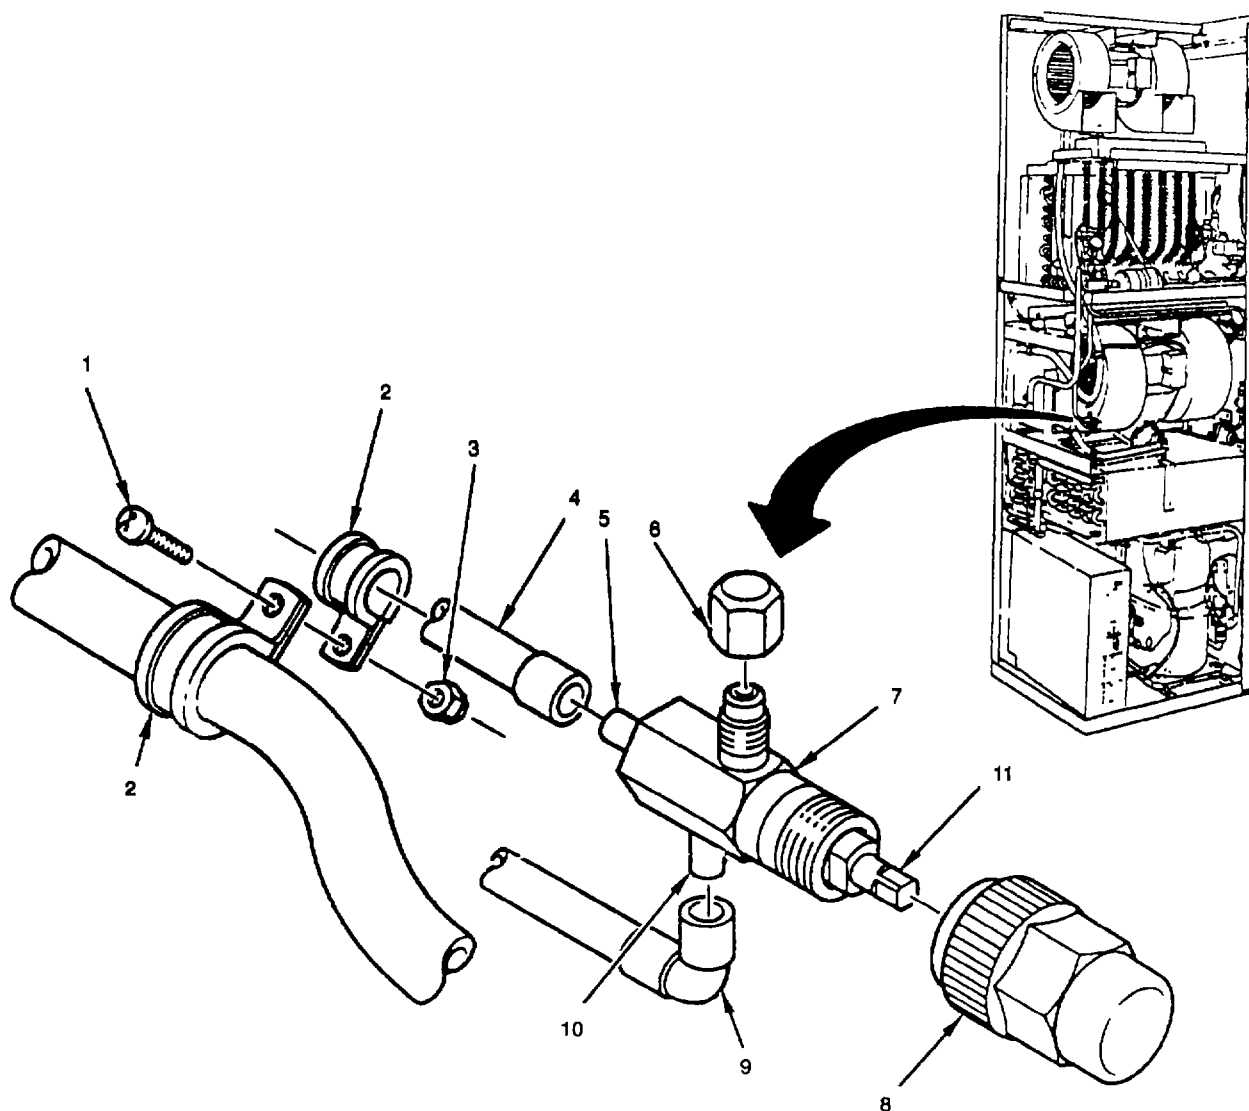

Figure 5-17. Liquid Quench Service Valve (V3)
- (1) Disconnect air conditioner input power at source; and
- (2) Remove condenser fan section panel (paragraph 4.23).
- a. Check for evidence of leaks or damaged lines, and loose or missing mounting hardware (see fig. 5-17).
- b. Remove screw (1) and locknut (3), slid clamps (2).
- c. Debraze tubing (4) and (9) at joints (5) and (10) (paragraph 5.12).
- d. Remove liquid quench service valve (7).
- a. Remove valve caps (6) and (8).
- b. Place liquid quench service valve (7) in mounting position.
- c. Braze tubing (4) and (9) at joints (5) and (10) (paragraph 5.12).